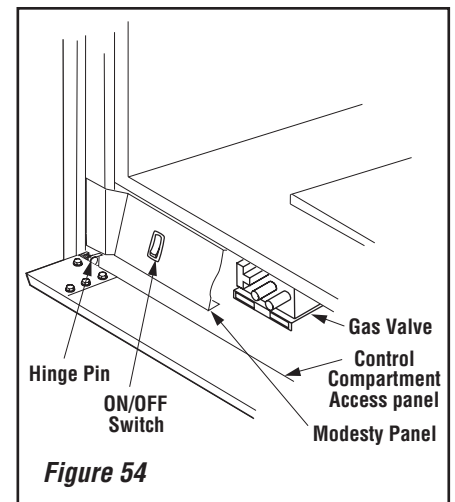

Figure 54
5. Install the snap bushing (on brown wall switch wire) into the selected cabinet knockout opening in side cabinets (see *Figures 16-19 and 51, pages 14, 15 & 30*). The snap bushing provides protection for the wires (see note below) passing through side cabinet going to an optional burner control switch. Wire in the burner control switch to the low voltage circuit as shown in *Figure 54*.
To access the valve open the lower control compartment door (*see Figure 54*) by pushing in the right top corner of the door. (The door is hinged at the bottom.) Remove the bottom compartment door by sliding the hinge pin, located at the door's left side, to the right until it disengages from the left corner post hole. Pull the door diagonally to the left, away from the fireplace.
NOTE: Lighting Instructions are also found on the literature tag tied to the gas piping next to the gas valve. To access the tag, open the lower control compartment door (**Figure 54**) by pushing in simultaneously the left and right top corners of the door. (The door is hinged at the bottom). Remove the bottom compartment door by sliding the hinge pin, located at the door's left side, to the right until it disengages from the left corner post hole. Remove the modesty panel. To remove the modesty panel, slide the panel forward until it contacts the cabinet bottom panel, then lift straight up and tilt forward. Remove the modesty panel carefully, so that none of the wires become loose or disconnected.